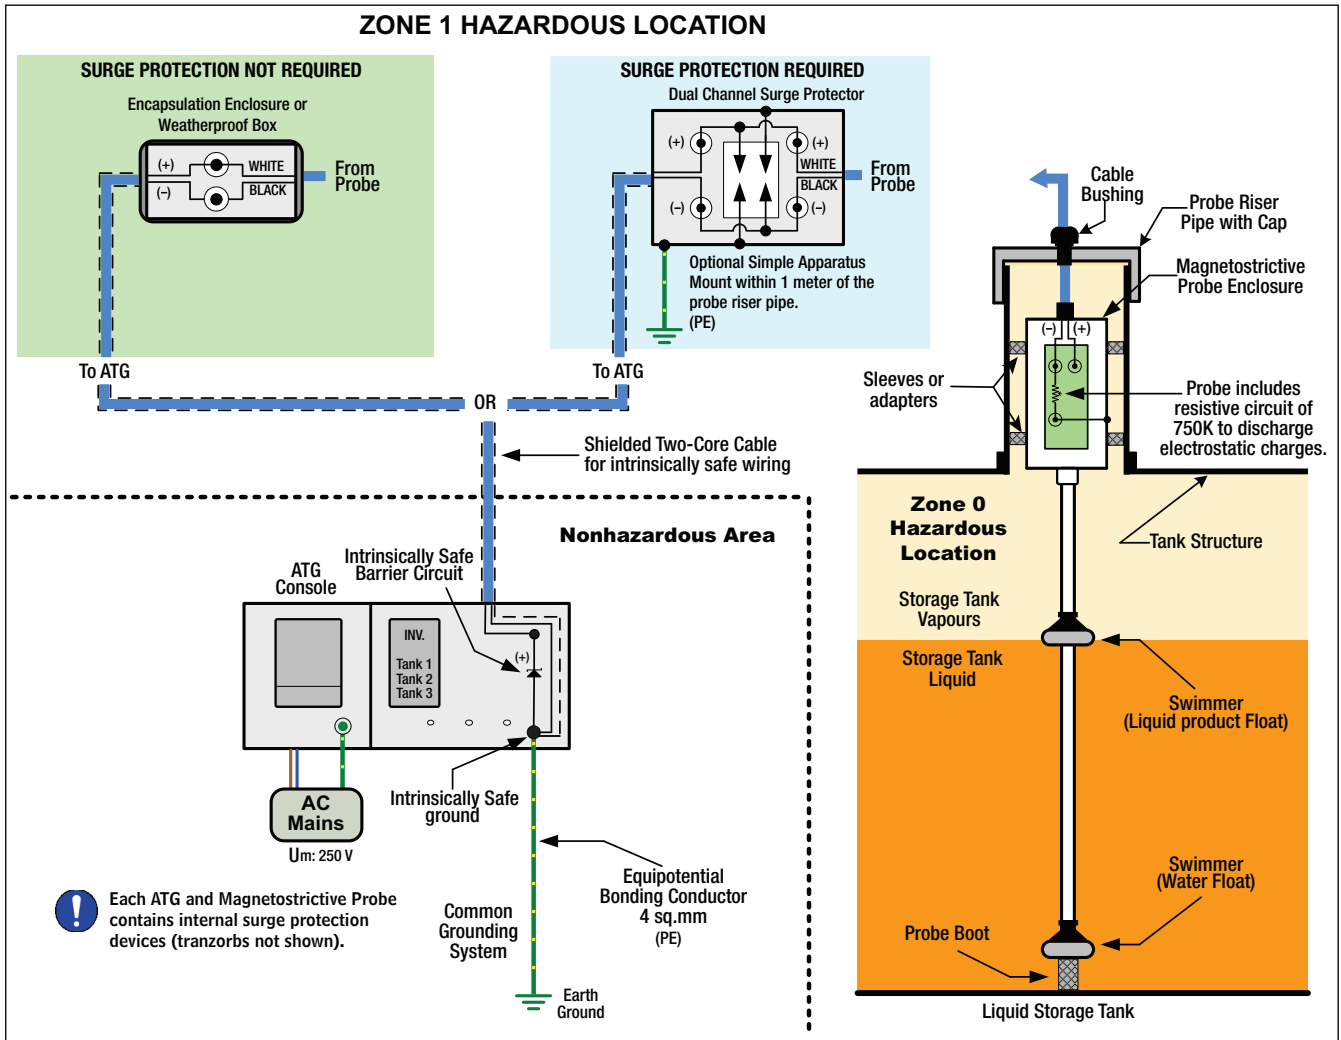

Figure 18. Connection Diagram for a Mag Probe in a Riser Pipe with and without Optional Surge Protection
For wired installations the dual channel surge protector is not polarity sensitive so either cable port may be used for the probe leader cable. Use the cable port on the opposite side for the wiring coming from the ATG Console. Inside the surge protector, one side of each spark gap device is wired to the metal enclosure as shown in Figure 18. Use a bonding strap, with a minimum cross-sectional area equivalent to 4mm², to wire the enclosure to the tank structure using the external potential equalization (PE) terminal.